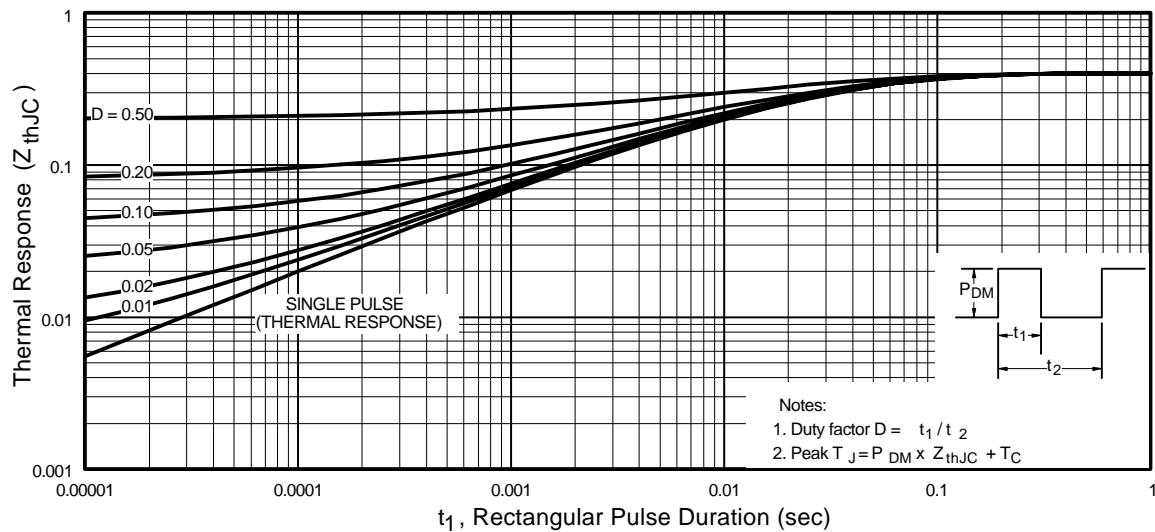

Fig 11. Maximum Effective Transient Thermal Impedance, Junction-to-Case
- ① Repetitive rating; pulse width limited by max. junction temperature. (See fig. 11).
- ② Starting $T_J = 25^\circ\text{C}$, $L = 0.21\text{mH}$
- $Z_{thJC}(D, t_{av})$ = Transient thermal resistance, see figure 11)